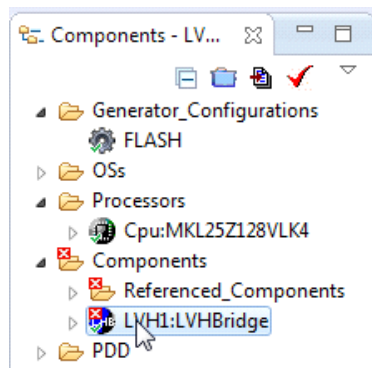

Figure 13. Select the Component
2. Double click LVHBridge component in the **Components** window (see Figure 13) to show the configuration in the **Component Inspector** view.